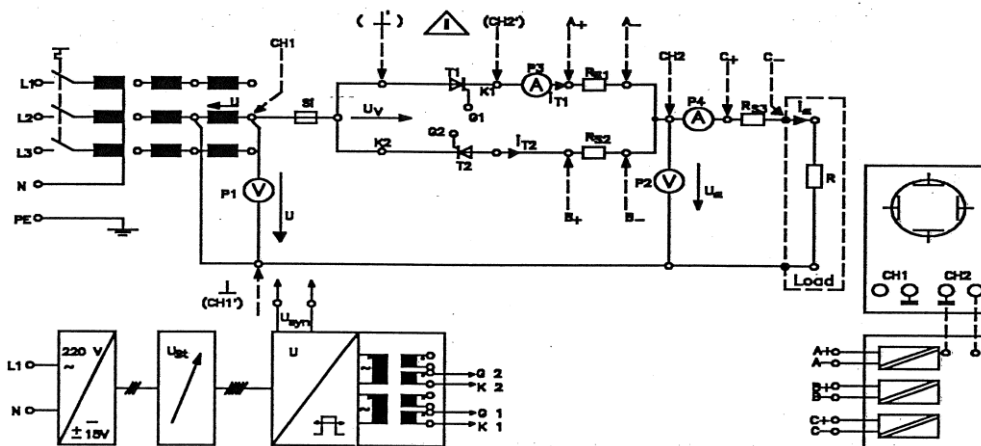

Figure 1 Single phase AC Voltage controller
- Connect the power circuit as shown in Figure 1, while using the supply voltage equal to 45V and a load resistance of 33 Ω, (three 100 Ω resistance connected in parallel)
- Connect the power circuit as shown in Figure 1, while using the supply voltage equal to 45V and a load made up of a resistance of 33 Ω, (three 100 Ω resistance connected in parallel) in series with an inductance of 50 mH.